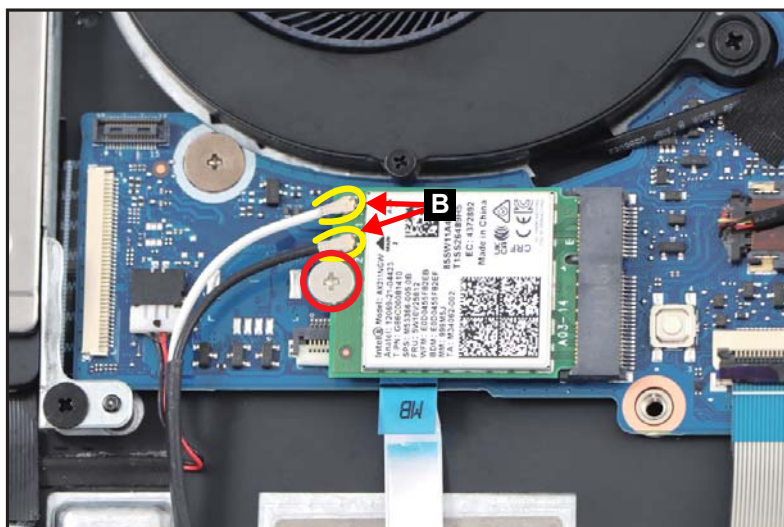

Figure 1-14. WLAN Module Removal
2. Disconnect the WLAN antennas cables from the WLAN module connectors (B) (Figure 1-14).
3. Remove one (1) screw securing the WLAN module in place (Figure 1-14).